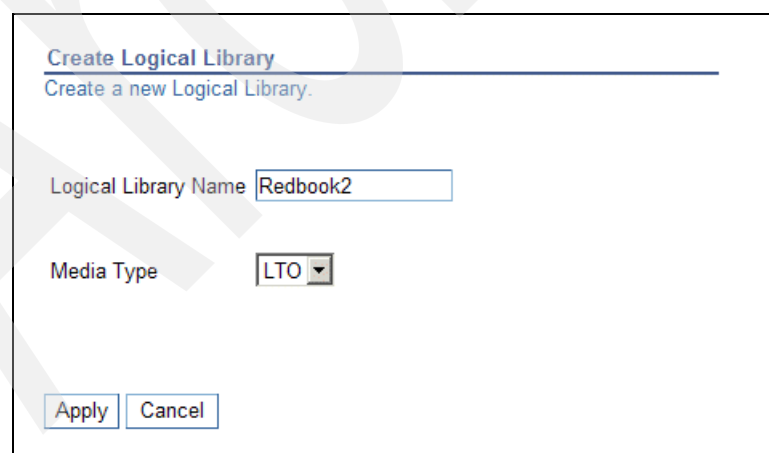

Figure 2-52 Create Logical Library
2. Type a unique name (up to 15 characters) for your new logical library (in our case, Redbook2) and select a **Media Type** (LTO or 3592) for this logical library, as in Figure 2-52. Click **Apply**. You cannot mix LTO and 3592 media types in one logical library, but you can have different LTO generations in one logical library, for example, LTO2, LTO3 and LTO4.